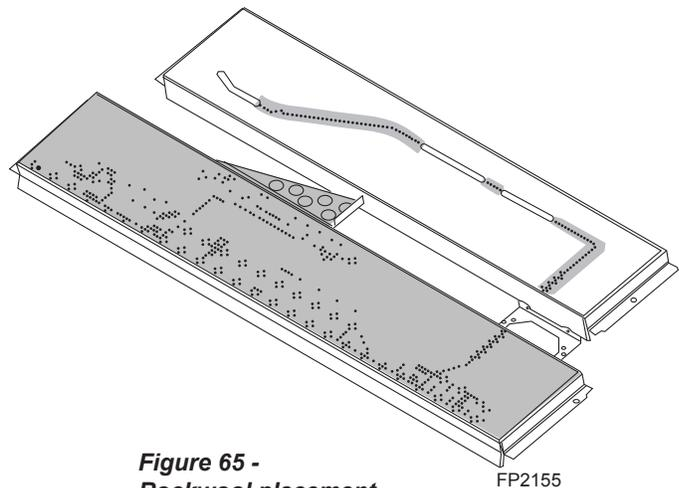

Figure 65 - Rockwool placement
2. Distribute one layer of rock wool to cover the burner. *Figure 65*